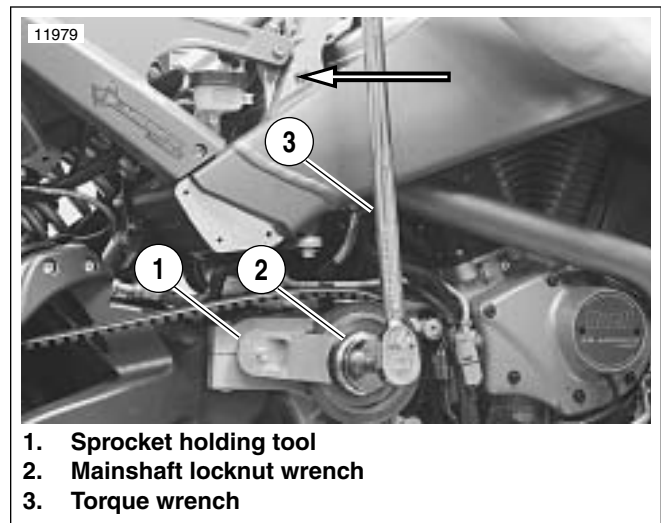

Figure 6-102. Transmission Sprocket Tightening
5. See Figure 6-102. Install SPROCKET HOLDING TOOL (Part No. B-43982) as shown.